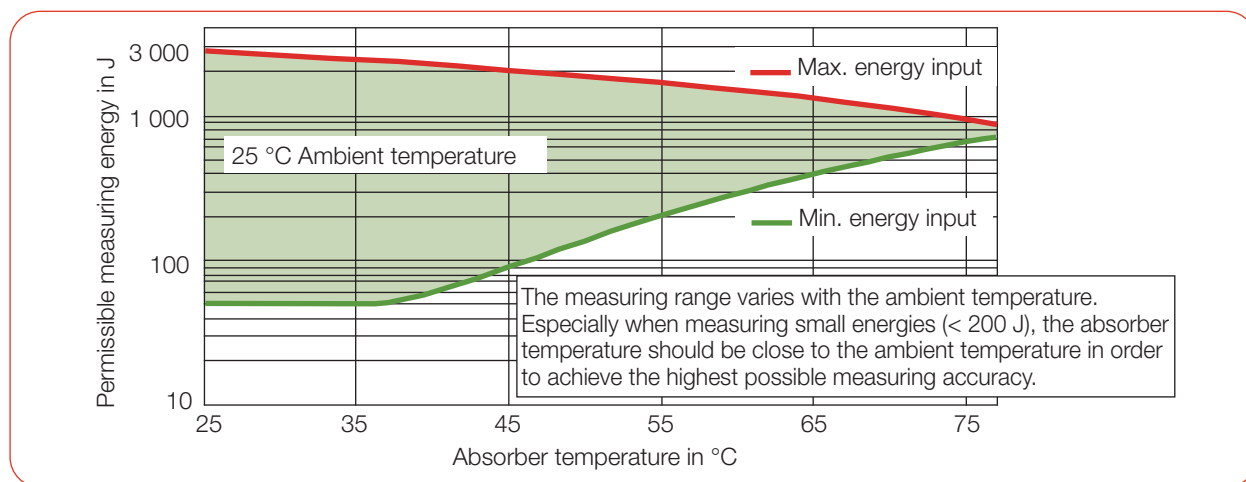

Fig. 9.1: Measuring range as a function of the absorber temperature
Fig. 9.1 shows the permissible energy input for a measurement as a function of the absorber temperature.
If the absorber temperature is higher than 100 °C, no further measurement should be performed. In this case, please wait until the absorber temperature has fallen below 50 °C (depending on the selected energy input). Please take the limit values from Fig. 9.1 and Tab. 9.1.
- ▶ If the absorber temperature is higher than 100 °C, no further measurement should be performed. Please wait until the absorber temperature has fallen below 70 °C. Please take the limit values from Fig. 9.1 on page 21 and Tab. 9.1 on page 21.